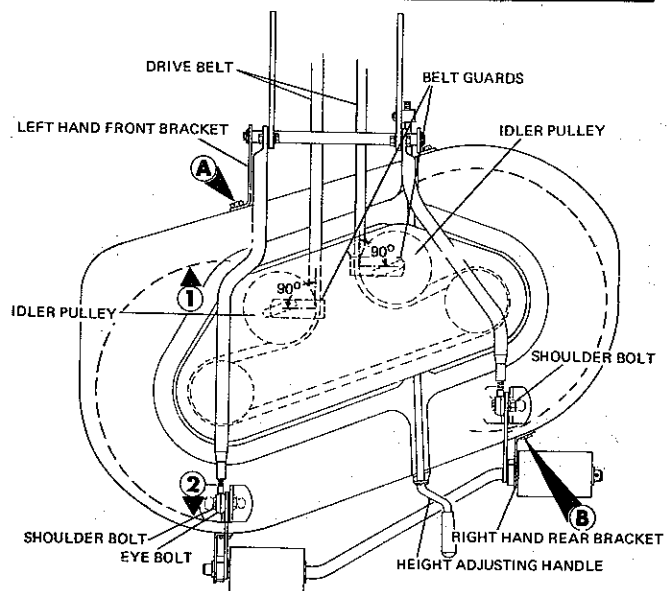

FIGURE 7
1. Loosen the left hand front bracket "A" and the right hand rear bracket "B" (See Figure 7).
2. Remove the two shoulder bolts that hold adjusting arms (See Figure 7). Be sure all roller bracket linkage is free to slide in slotted holes.
3. Establish points 1 and 2 (See Figure 7). Rotate blades to point 1 and 2. Raise the mower using the height adjusting handle (See Figure 7) so that the blade tip at point 1 is 1/8" higher than point 2. When measuring this dimension, always rotate the blade so that all measurements are made using the same blade tip (i.e., after measuring the front tip, rotate the blade so that the rear measurement is made using the same blade tip).
6. Replace the shoulder bolts. If the holes do not line up (without pressure) screw the eye bolt (See Figure 7) into or out of the adjusting arms as necessary.